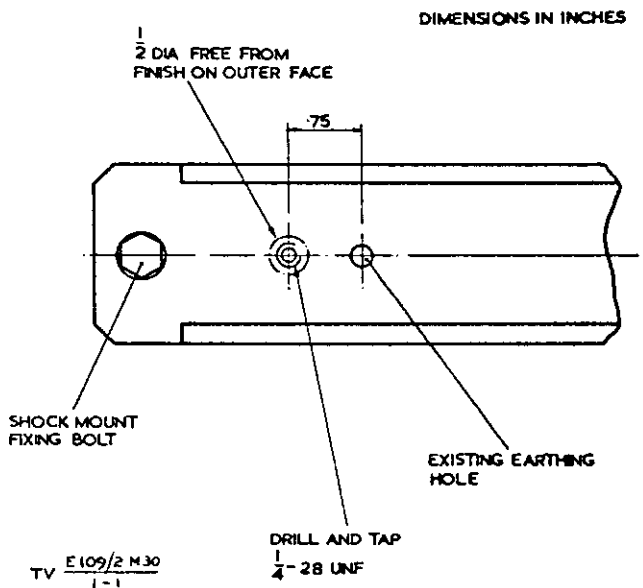

Fig 1 - Bracket support computer r.h.
- b. Remove brackets from vehicle and drill and tap as detailed in Figs 1 - 10.